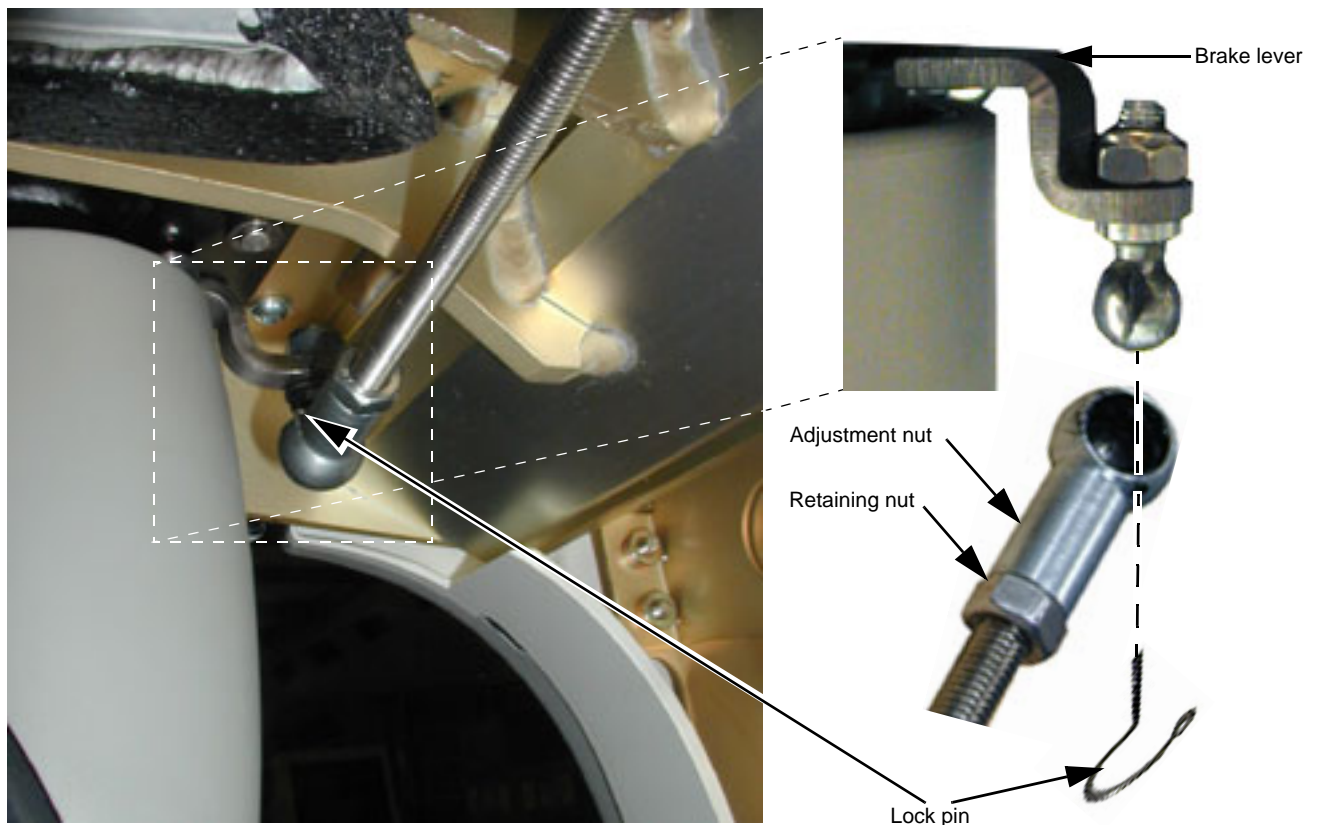

Figure 6-5 Front Caster Brake Arm and Ball Joint Parts
- 2.) Remove the lock pins that secures the balljoints (See Figure 6-5).
7.) Install the lock pins, see Figure 6-5.